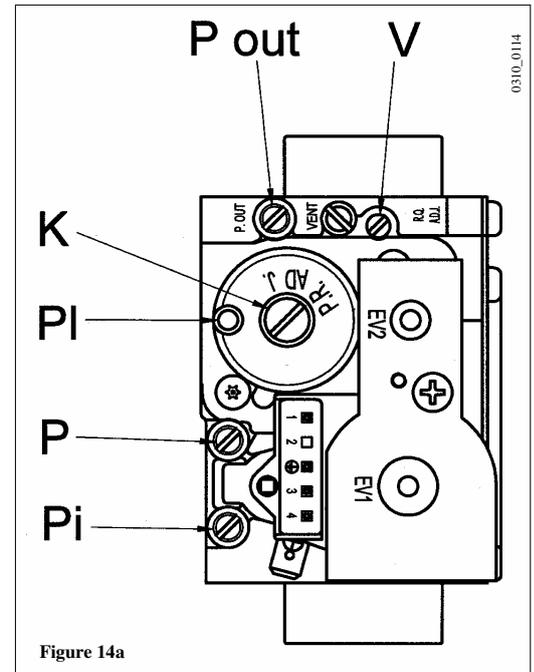

Figure 14a
- b) gas valve SIGMA model 848 (figure 14a).
- b) **gas valve SIT model SIGMA 848 (figure 14a):** turn the screw clockwise to reduce the concentration of CO₂ and anticlockwise to increase it;
- 2) **calibration of the reduced heat output.** Check that the CO₂ measured on the flue, with the boiler operating at the minimum heat output, is the same as that shown in table 1. Otherwise, turn the regulation screw (K) on the gas valve. Turn the screw clockwise to increase the concentration of CO₂ and anticlockwise to reduce it;